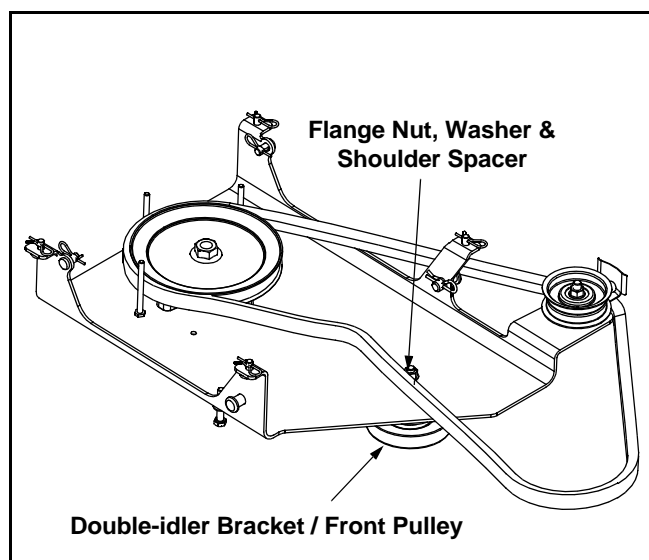

Figure 2
- Remove the flange nut, washer and shoulder spacer which secures the double-idler bracket to the undercarriage. See Figure 2.
- Remove the flange nut, flat washer and shoulder spacer which secures the double-idler bracket to the undercarriage. See Figure 2.